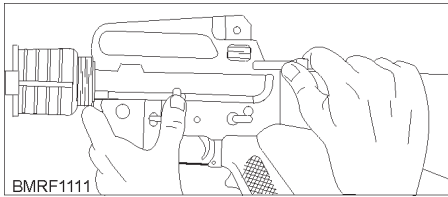

Figure 11-11.—Locking the bolt open.
3. Lock the bolt open (figs. 11-10 and 11-11). Grasp the charging handle with the thumb and forefinger of the right hand, depress the charging handle, latch it with the right thumb, and pull to the rear (fig. 11-10). When the bolt is fully rearward, press the bottom of the bolt catch with the thumb or forefinger of the left hand (fig. 11-11). Allow the bolt to move slowly
As you read this section, refer back to figures 11-8, 11-9, 11-10, and 11-11. To unload the rifle and make it safe, place the selector lever on the SAFE position (fig. 11-8); and remove the magazine by pressing the magazine release button (fig. 11-9). Pull the charging handle to the rear (fig. 11-10), ejecting any round from the chamber. Inspect the chamber and receiver to ensure that it is clear. Releasing the charging handle will allow the bolt to close. To keep the bolt open, depress the lower portion of the bolt catch before returning the charging handle forward (fig. 11-11). The rifle is clear only when the following conditions exist: